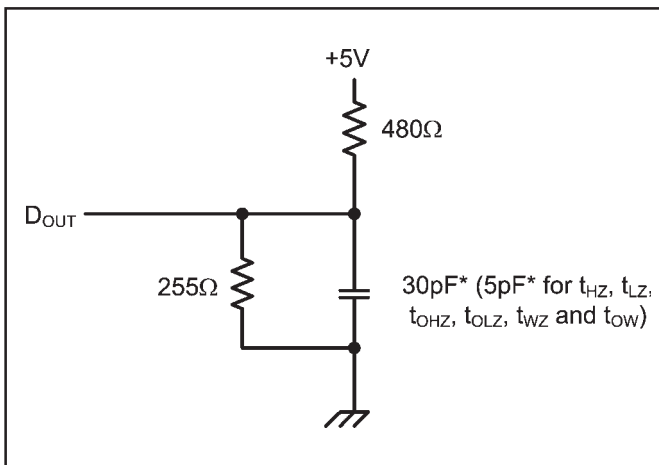

Figure 1. Output Load
- 9. Transition is measured  $\pm 200\text{mV}$  from steady state voltage prior to change, with loading as specified in Figure 1.
Output Load	See Figures 1 and 2